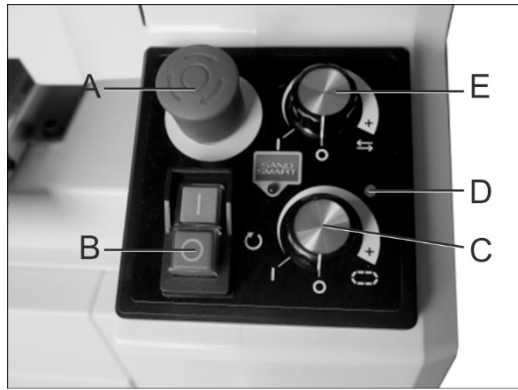

Figure 9-1: control panel
2. Disengage emergency stop by clockwise turning the red button or pulling it up (A, Figure 9-1).
Note: Error Indicator (D, Figure 9-1) may flash continuously to remind that the conveyor speed dial is NOT set at OFF position before starting the operation. The control system is designed to prevent the conveyor belt from being activating accidentally. If conveyor belt motor doesn't work, turn the dial (C, Figure 9-1) to OFF and re-dial.
The sander can be used with sanding drum in fixed position or in oscillation mode. The top dial (Figure 9-1, E) activates oscillation mode.